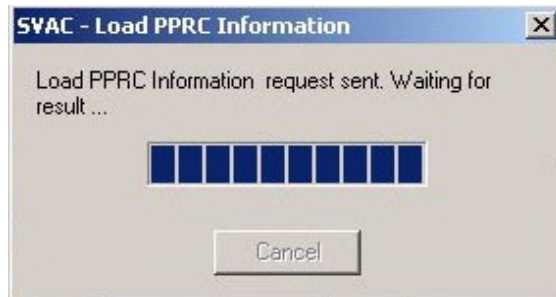

Figure 16 Information Loading
- The dialogue box of Figure 16 will appear briefly.
11. The dialogue box shown in Figure 16 on page 75 will appear briefly.